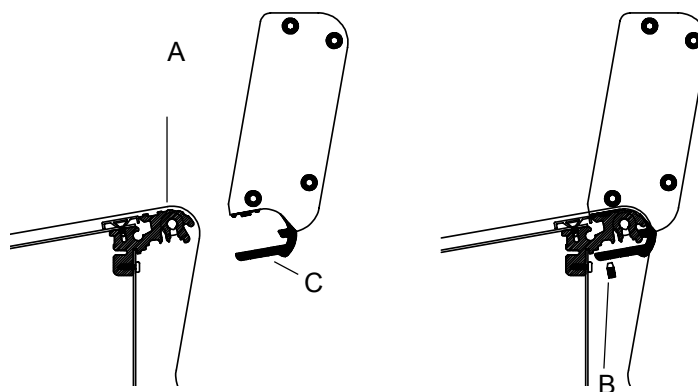
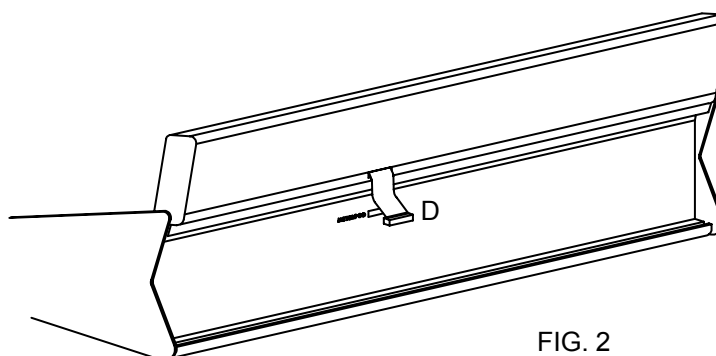

FIG. 1
FIG. 2
- 1.) Carefully unpack the meterbridge and fit it over the console rear extrusion (A) as shown in fig 1. Make sure all of the grub screws (B) are fully withdrawn from the meterpod extrusion (C) before fitting.
- 2.) Once the meterbridge is in place, tighten the grub screws (B) to secure the meterbridge in place.
- 3.) Plug in the meterbridge harness (D) into the connector marked **METERPOD** on the rear panel of the console. See fig. 2.